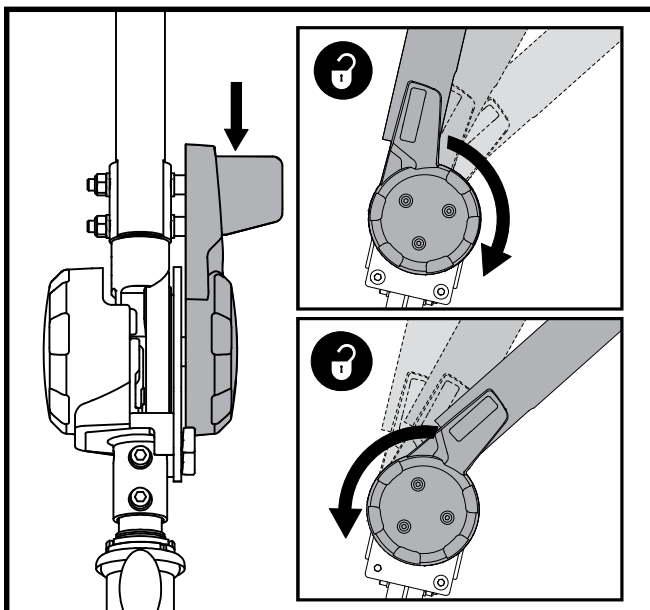

Figure 11. Tiller Adjustment Knob
1. With the seat and battery pack removed (see Disassembly Procedures on previous page), lower the tiller and tighten the tiller adjustment knob. **See figure 11.**
3. Raise the tiller and fully tighten the tiller adjustment knob. **See figure 11.**